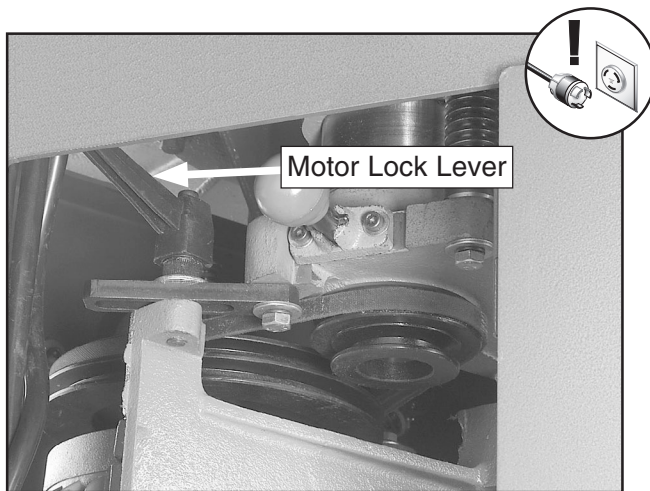

Figure 49. Motor lock lever.
2. Open the motor access door and loosen the motor lock lever shown in **Figure 49**.